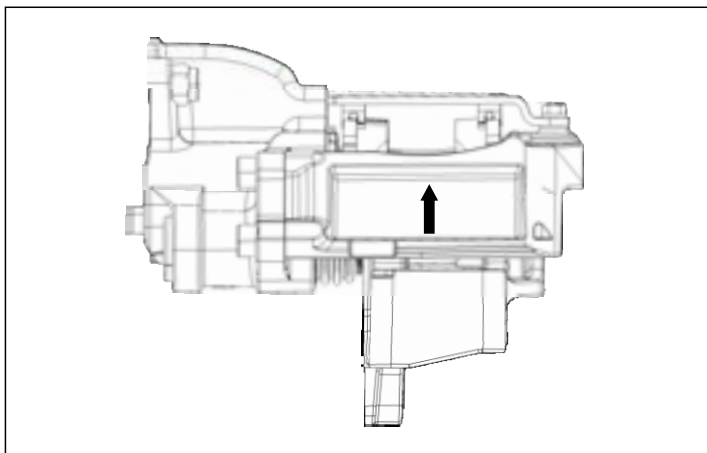

Figure 5. Rotation Direction Marking of ADB RH
- The identification of ADB LH and RH can be distinguished by the length difference of the guide pin and the arrow marking on the side of the bridge. The arrow marking indicates the rotation direction of the rotor. (See FIGURE 5, 6.)
- (L) : Long Guide Pin
- (S) : Short Guide Pin